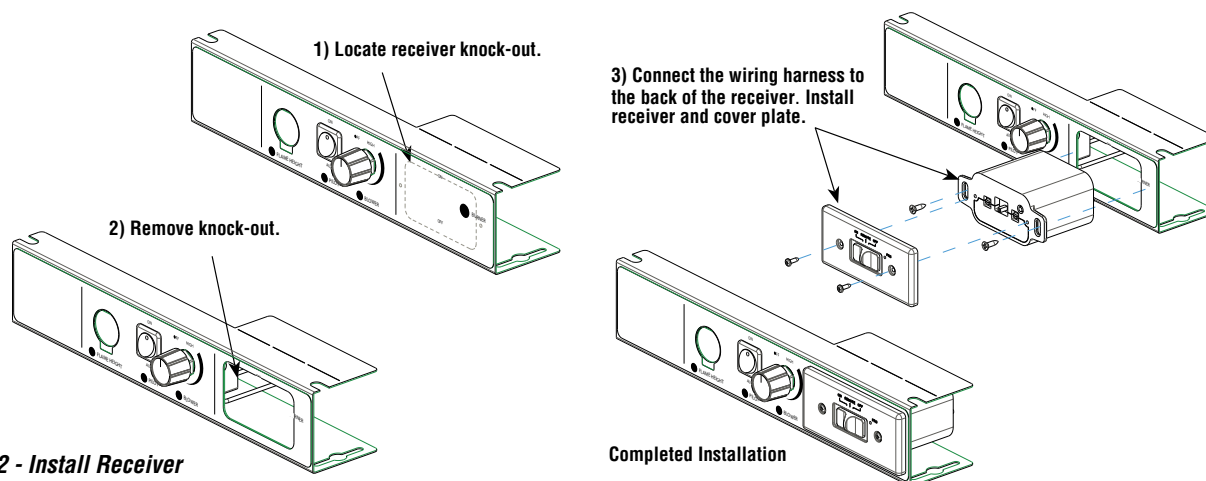
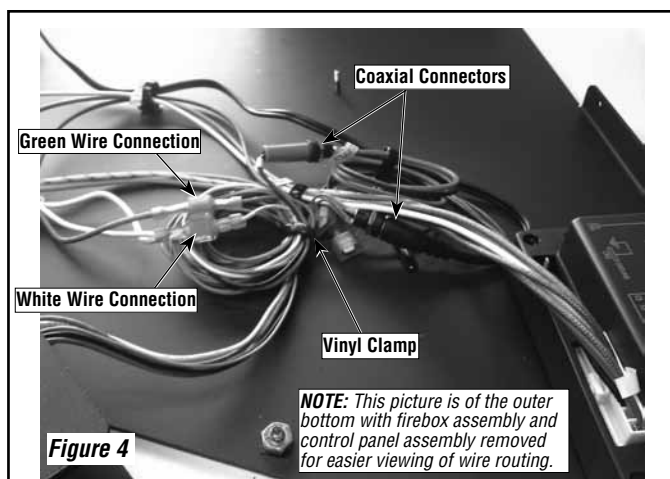

Figure 2 - Install Receiver
Figure 4
- Step 4.** Using a utility knife, carefully cut through the label using the cut in the control panel as a guide. See **Figure 2**.
- Step 5.** Push on the side of the cut out in the control panel to remove the knockout. Remove any sharp burrs where knockout was connected. See **Figure 2**.
- Step 7.** Install the 4 AA type batteries in the battery compartment with the correct polarity. See **Figures 2**.
- Step 8.** Place the slider into the small cover plate (as shown). Align the slider with the switch on the receiver and couple the switch into the slider. Using the two (2) pan head screws provided secure the cover plate to the receiver.
- Step 10.** Coil up excess wire on receiver harness and secure to appliance base with attached vinyl clamps. See **Figure 4**.